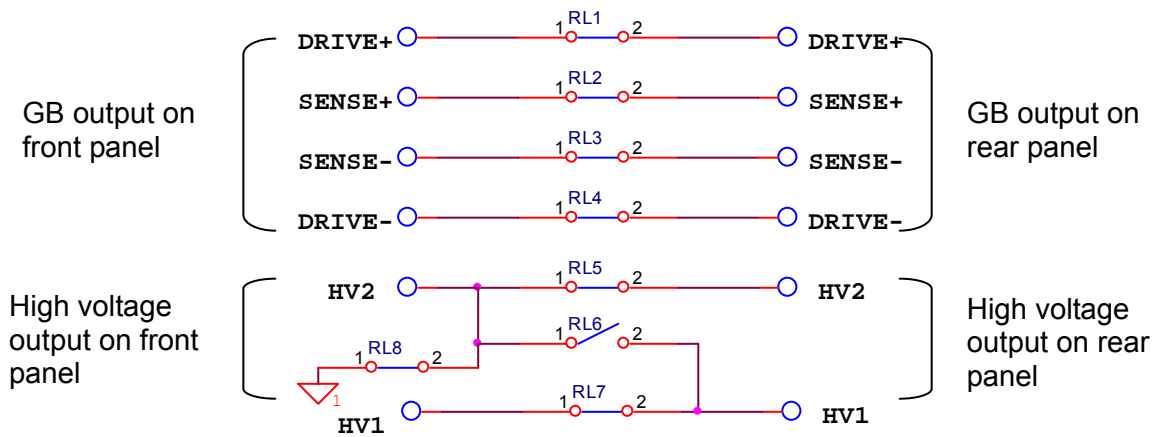

Figure 4-14
- ii. When Channel 3 is set to H and HV1 terminal on rear panel is set to high voltage output, in the meantime GFI setting can't set to FLOAT. The connection diagram of front panel terminal and rear panel terminal is as *Figure 4-14* shown: